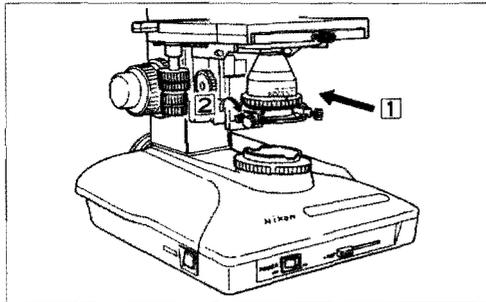

Fig. 2-13
⑧ Mounting and Dismantling the Condenser Lens
- Insert the condenser lens into the condenser carrier ① with the aperture number plate facing toward the user. Fasten it with the condenser clamp screw ② (Fig. 2-13).